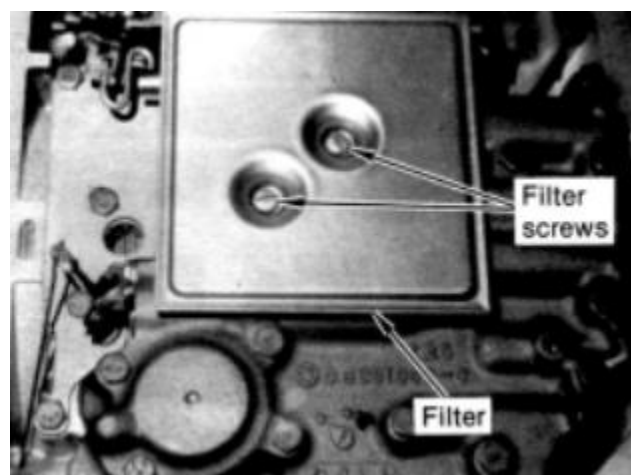

Figure 1
2. Use a screwdriver to remove two screws and remove the oil filter and filter gasket. Put them in the oil pan. (See Fig. 1)